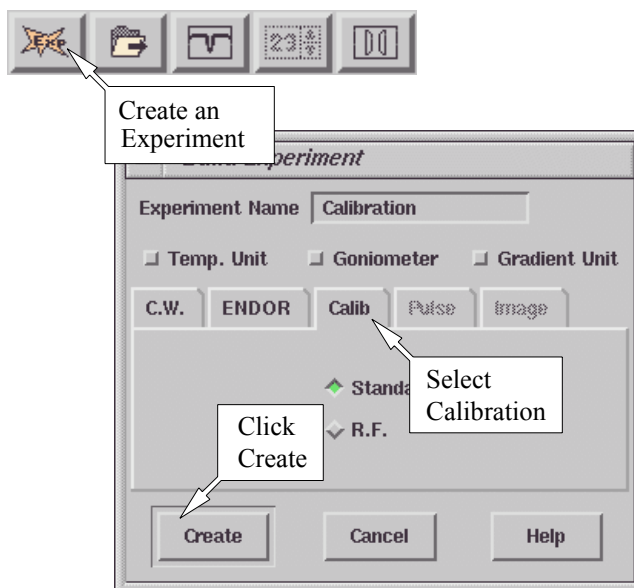

Figure 2-5 Creating a calibration experiment.
2. **Create a calibration experiment.** Click the New Experiment button in the monitoring panel and the dialog box will appear. (See Figure 2-5.) Enter a name for the experiment (calibration for example) in the Experiment Name column. Click the Calib tab. Make sure the Standard push button is activated (green). The R.F. button is for ENDOR calibration. Click the Create button to close the dialog box.